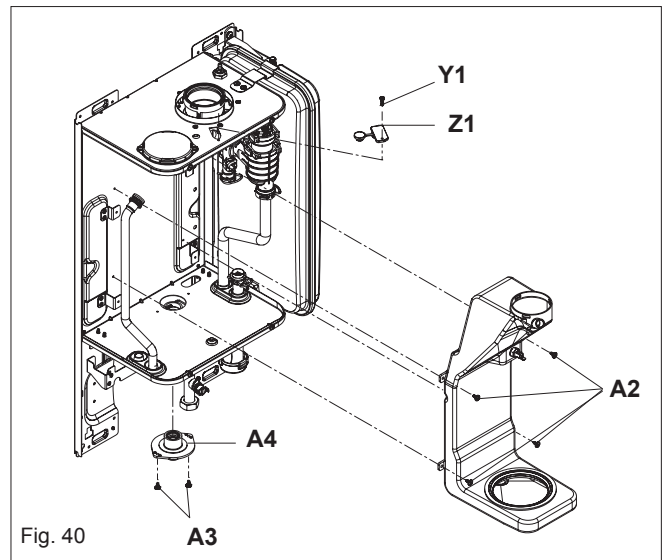

Fig. 40
6.20 FLUE COLLECTOR REMOVAL (fig. 40)
THE GAS VALVE MUST BE SET-UP OR ADJUSTED WITH THE AID OF A PROPERLY CALIBRATED FLUE GAS ANALYSER. Isolate the appliance from the electrical supply and remove the appliance casing as described in 4.7.1. Set the flue gas analyser to read CO₂ and insert the probe into the flue analysis test point (Y1-Z1 fig. 40). Restore the electrical supply to the boiler and switch the boiler to the OFF mode.
- Insert the flue gas analyser probe into the flue gas test point (see fig. 40).